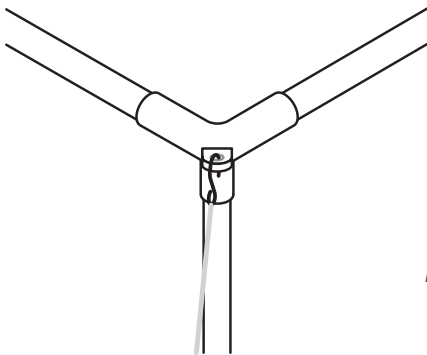

Figure 12
2. Attach the S-hook of the tension strap to the loop of the corner piece (Figure 12).
1. Attach the S-hook of the tension strap to the loop of the corner piece (Figure 12).